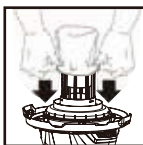

FIGURE 12
21. With the tank cover in an upside down position, slide the reusable cloth filter down over the lid cage, until the elastic band seals against the cover. **FIGURE 12.**